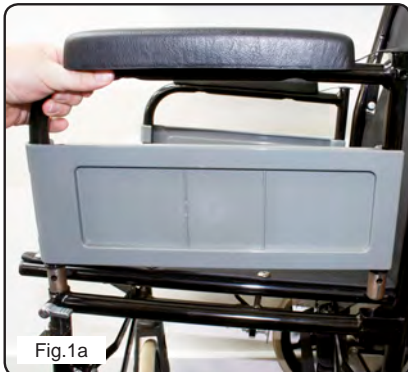

Fig.1a
- Remove the original armrest from the wheelchair (Fig.1a).